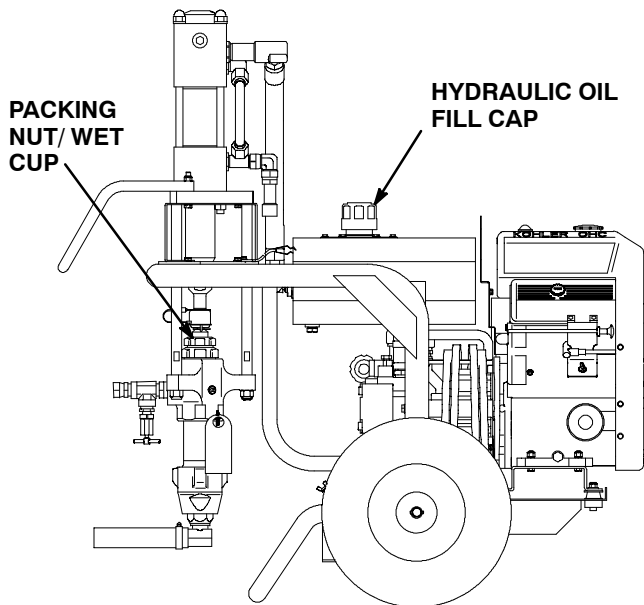

Fig 2 7871b
2. **Fill the Packing Nut/Wet Cup** 1/3 full with Graco Throat Seal Liquid (TSL), supplied. See Fig. 2.
- a. Unscrew the hydraulic oil fill cap. See Fig 2. The dipstick is attached to the cap. The oil should be up to the full line on the dipstick.